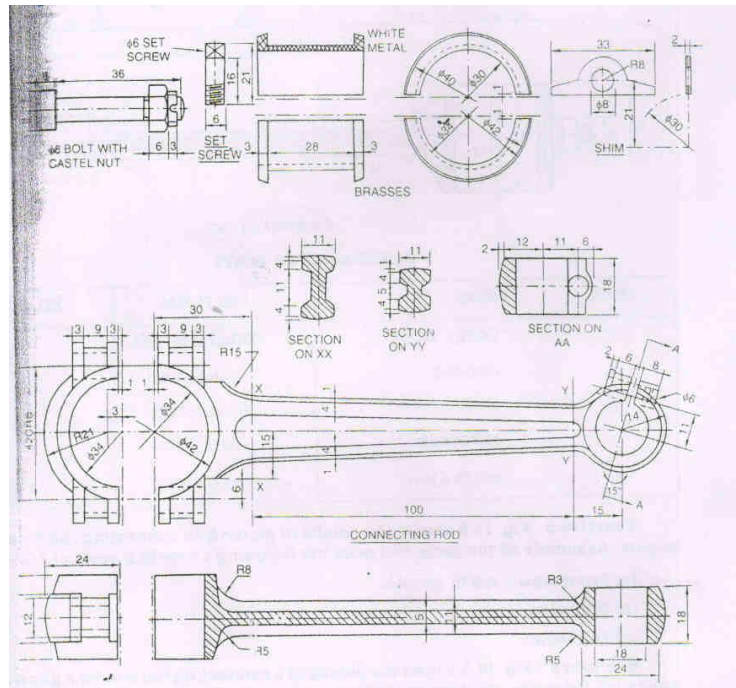

Figure 7 Component details of connecting rod
1. Draw the orthographic projection of the connecting rod given in the figure 7 using the modelling software and mention the dimensions